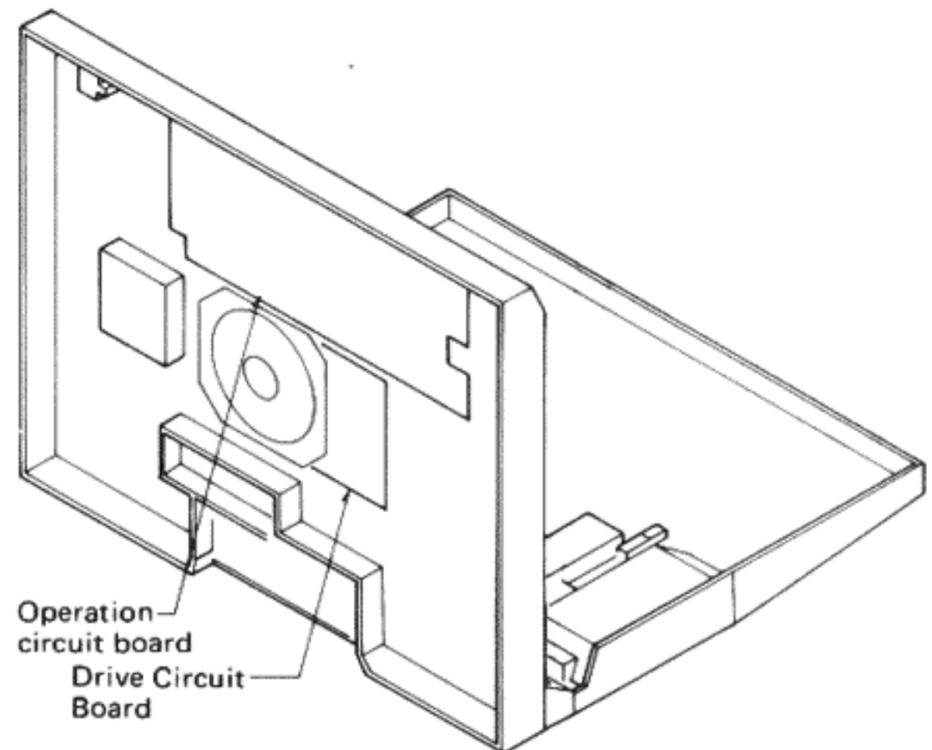

Fig. 6
2. How to raise the set (Fig. 6)